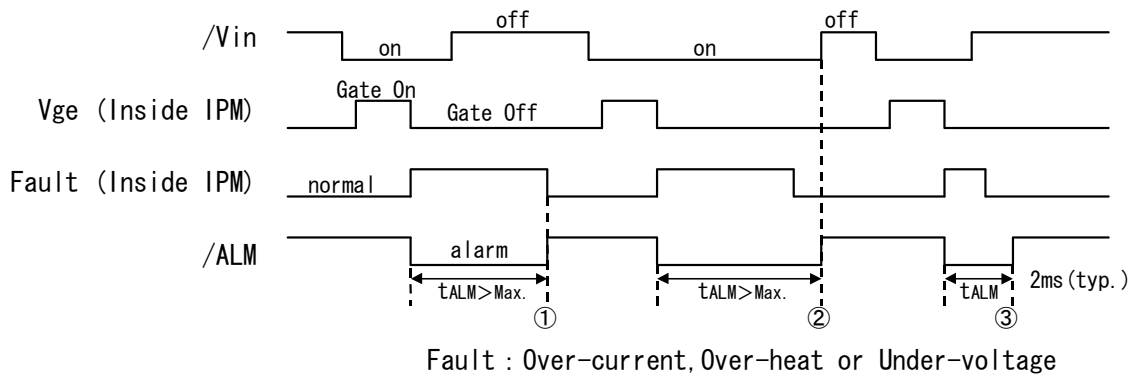

Figure 2. Input/Output Timing Diagram
Necessary conditions for alarm reset (refer to ① to ③ in figure2.)
- ① This represents the case when a failure-causing Fault lasts for a period more than  $t_{ALM}$ . The alarm resets when the input  $V_{in}$  is OFF and the Fault has disappeared.
- ② This represents the case when the ON condition of the input  $V_{in}$  lasts for a period more than  $t_{ALM}$ . The alarm resets when the  $V_{in}$  turns OFF under no Fault conditions.
- ③ This represents the case when the Fault disappears and the  $V_{in}$  turns OFF within  $t_{ALM}$ . The alarm resets after lasting for a period of the specified time  $t_{ALM}$ .